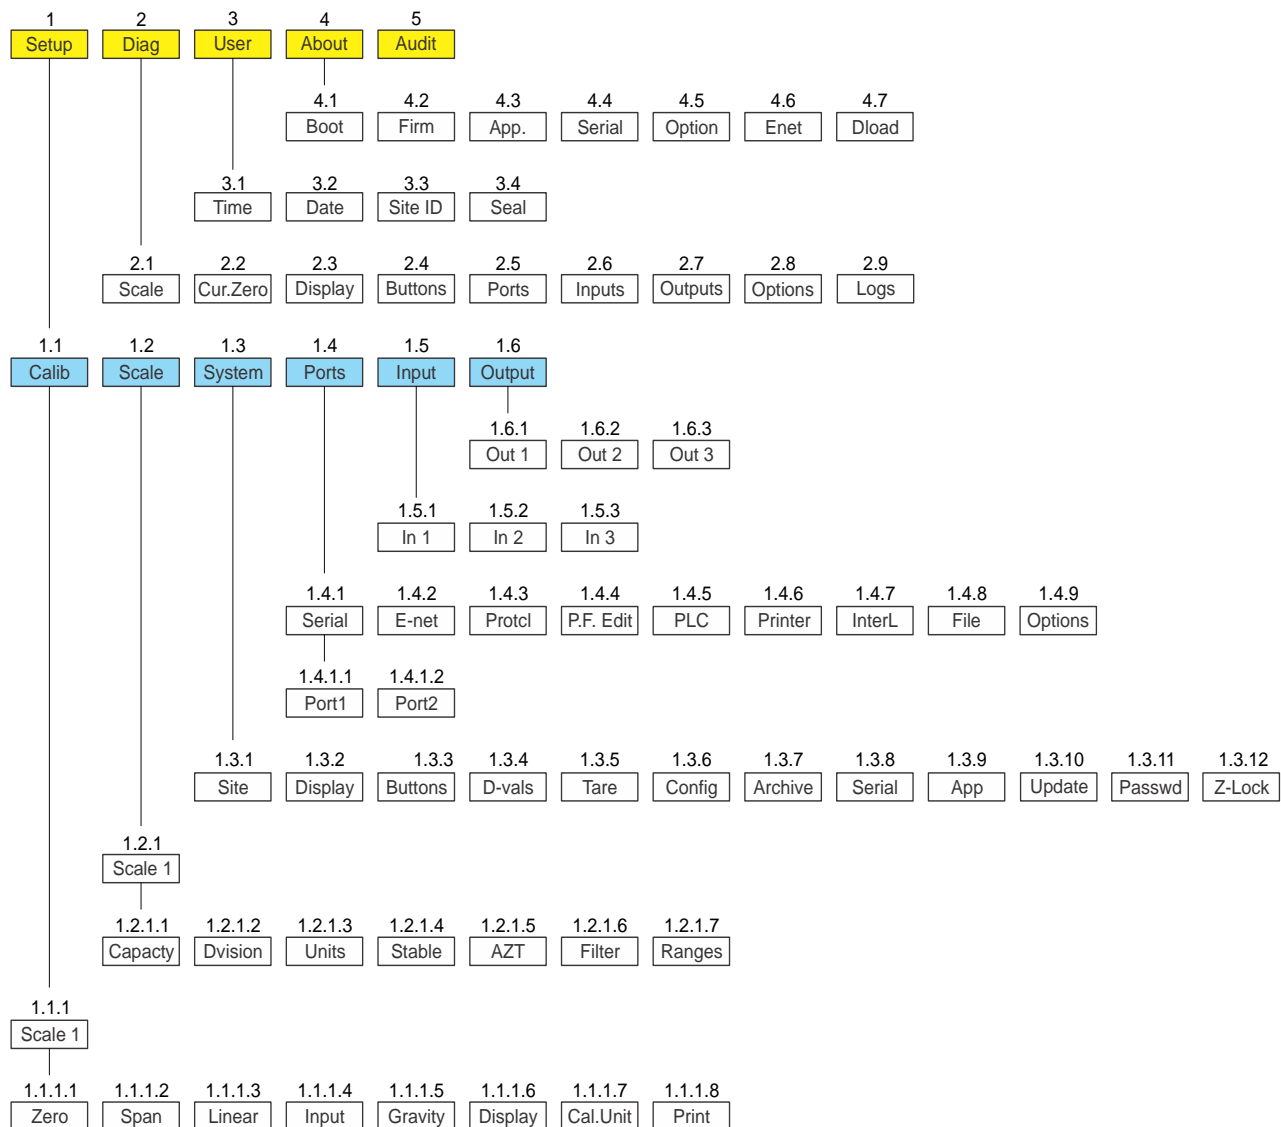

Figure 3.1 Quick Code table
2. Refer to the Quick Code table in Figure 3.1, find the parameter you want to access, key in that number and press **ZERO** ...